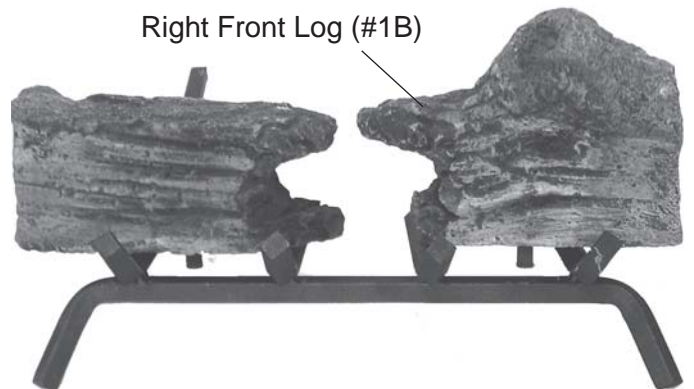

Figure 94 - Placing Right Front Log (#1B) on Grate
3. Place Right Front Log #1B on front right of the grate. See Figure 94.